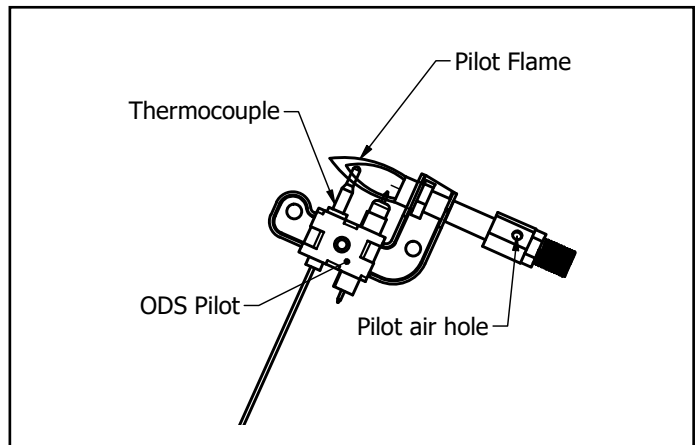

Fig. 5 - Pilot Assembly
Always keep the heater area clear and free from combustible materials, gasoline and other flammable vapors and liquids. Keep the vent areas (slots in the bottom and the top at the front of heater) clear at all times so combustion air and ventilation is not obstructed. Visually inspect the pilot flame and burner periodically during use so combustion air and ventilation is not obstructed. The pilot flame should be blue in color (not yellow) and will extend beyond the thermocouple. The flame will surround the thermocouple just below the tip, see Figure 5. A slight yellow flame may occur where the pilot flame and main burner flame meet. The burner(s) should be bright orange (with a slight blue color around the border, a red-orange haze that is visible on the burner is acceptable) and without a noticeable flame. A blue flame that rolls out at the top indicates an accumulation of dust, lint or spider webs inside the main burner assembly. If the pilot is yellow or the burner has a noticeable flame, cleaning may be required. Use the following procedure to inspect main burner assembly. It is necessary to periodically check the burner(s) orifice and burner venturi tube to make sure they are clear of insects/nests or spider webs that may accumulate over time. It is strongly recommended that these maintenance instructions be performed annually. A clogged tube can lead to a fire.
6. Inspect and clean pilot (mounted to bracket) by using a vacuum or apply air pressure through the holes in the pilot indicated by the arrows in Figure 5.